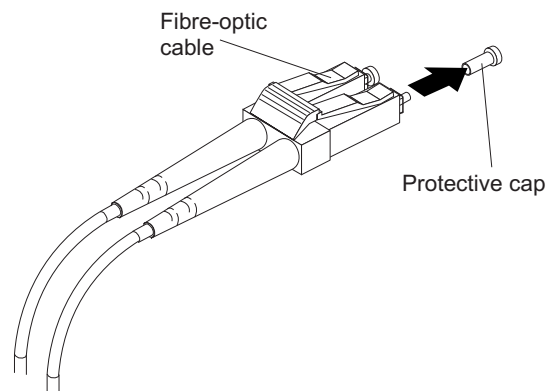

Figure 28. Removing fibre-optic cable protective caps
3. Remove the two protective caps from one end of the LC-LC cable, as shown in Figure 28. Save the protective caps for future use.